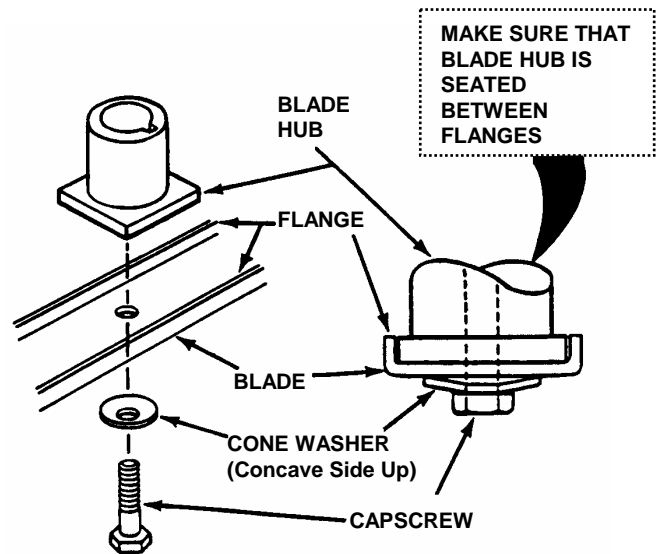

FIGURE 4.3
3. Remove blade. See Figure 4.3.
- Reinstall blade. Refer to Figure 4.3. Check torque of blade retaining cap screw. Recommended torque should be 40 ft. lbs.